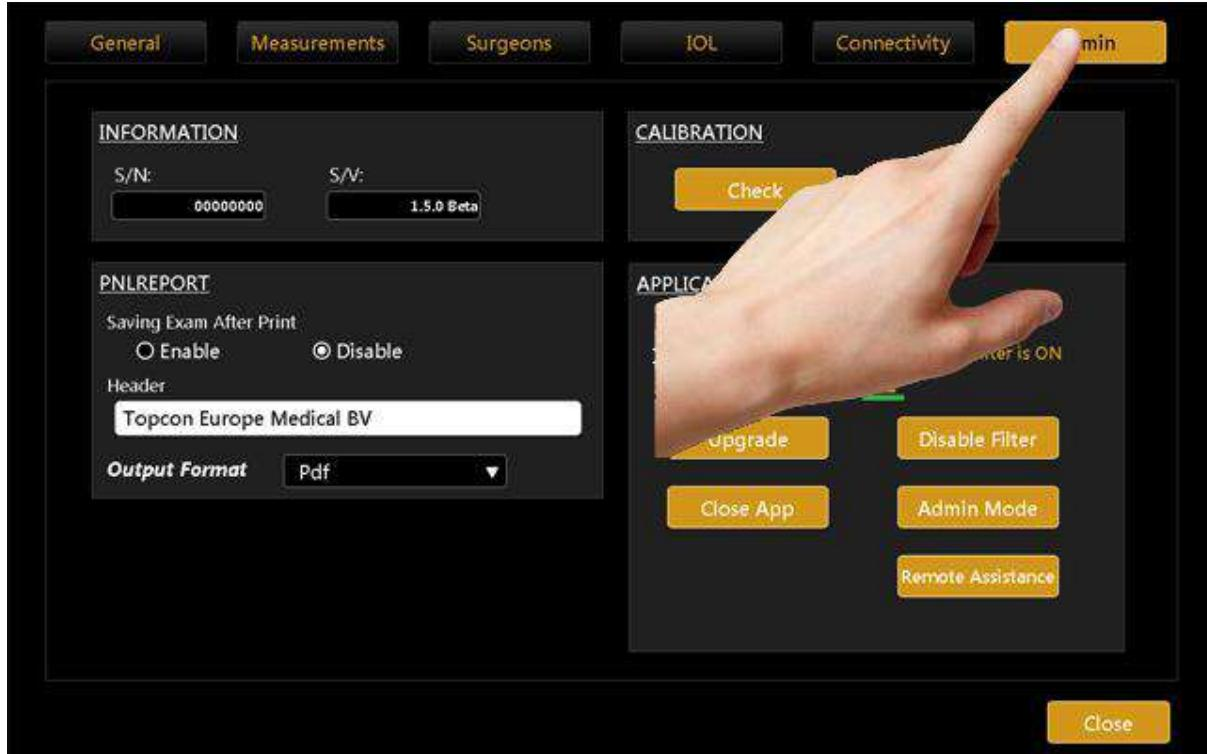

Figure 95
- Click on the “Admin” tab (Figure 95).